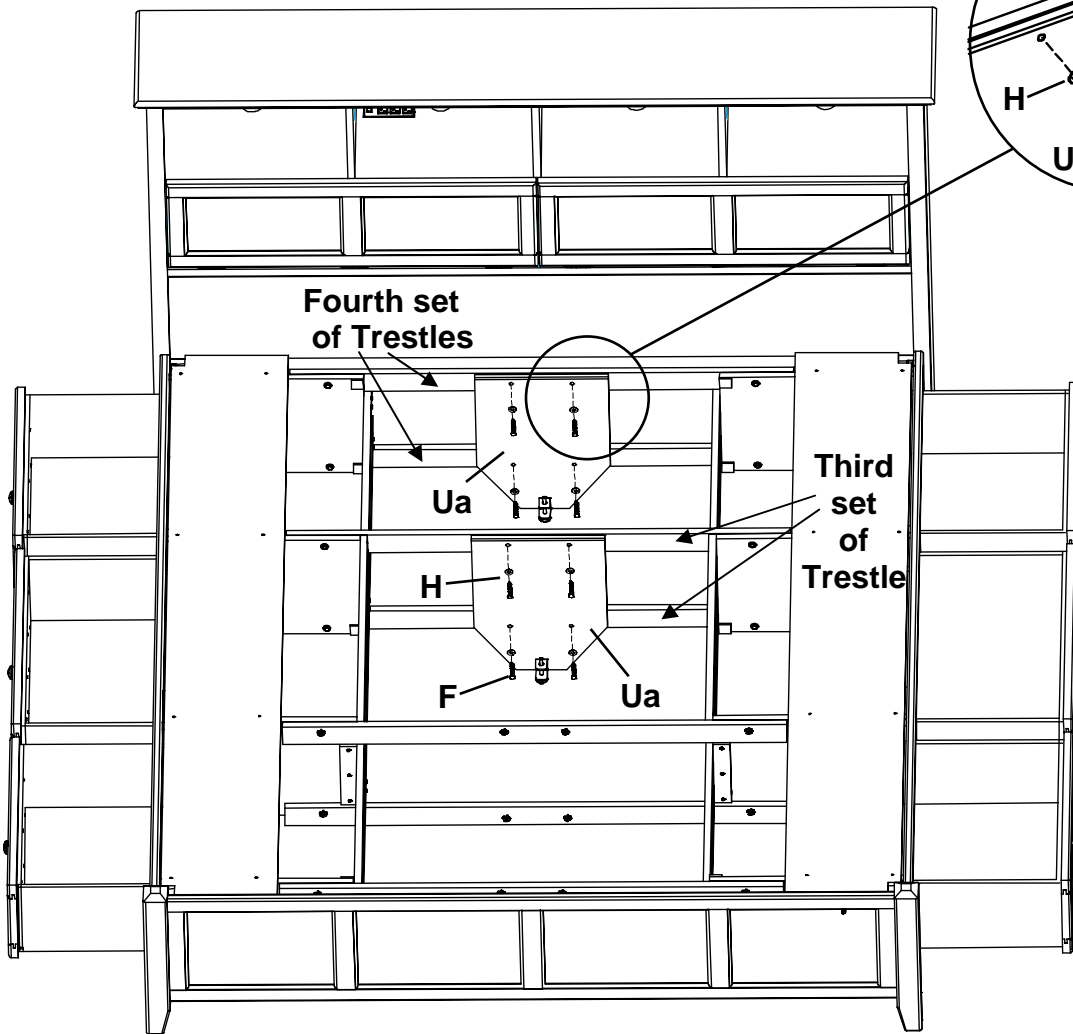

Fig. 8
8. Facing the Headboard, place two Foot Assemblies (Ua) on the inside faces of the third and fourth upper and lower Trestles. Attach with Washers (H) and 1/4" x 1-3/4" Hex Bolts (F). See Figures 8 and 8a.